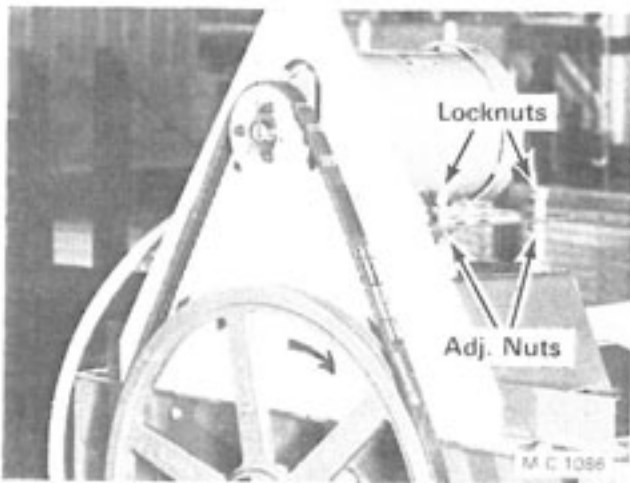

Figure 32
- Adjust the belt tension by loosening the locknuts and raising the motor mount plate evenly with the four adjusting nuts, then tighten the locknuts, see Figure 32.